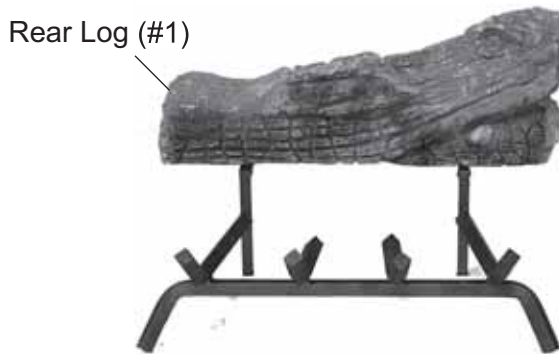

Figure 69 - Placing Rear Log (#1) on Back of Grate
2. Place Back Log #1 on back of grate. *See Figure 69.*